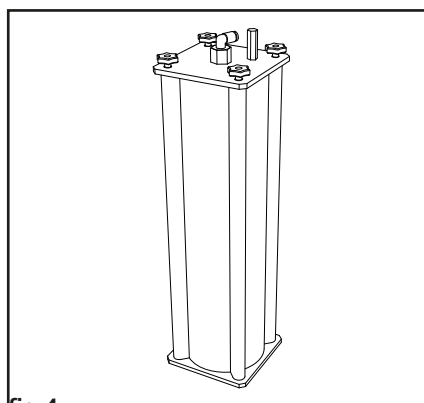

fig.4
8. Slide the base on and screw the knobs on the lid (fig.4).